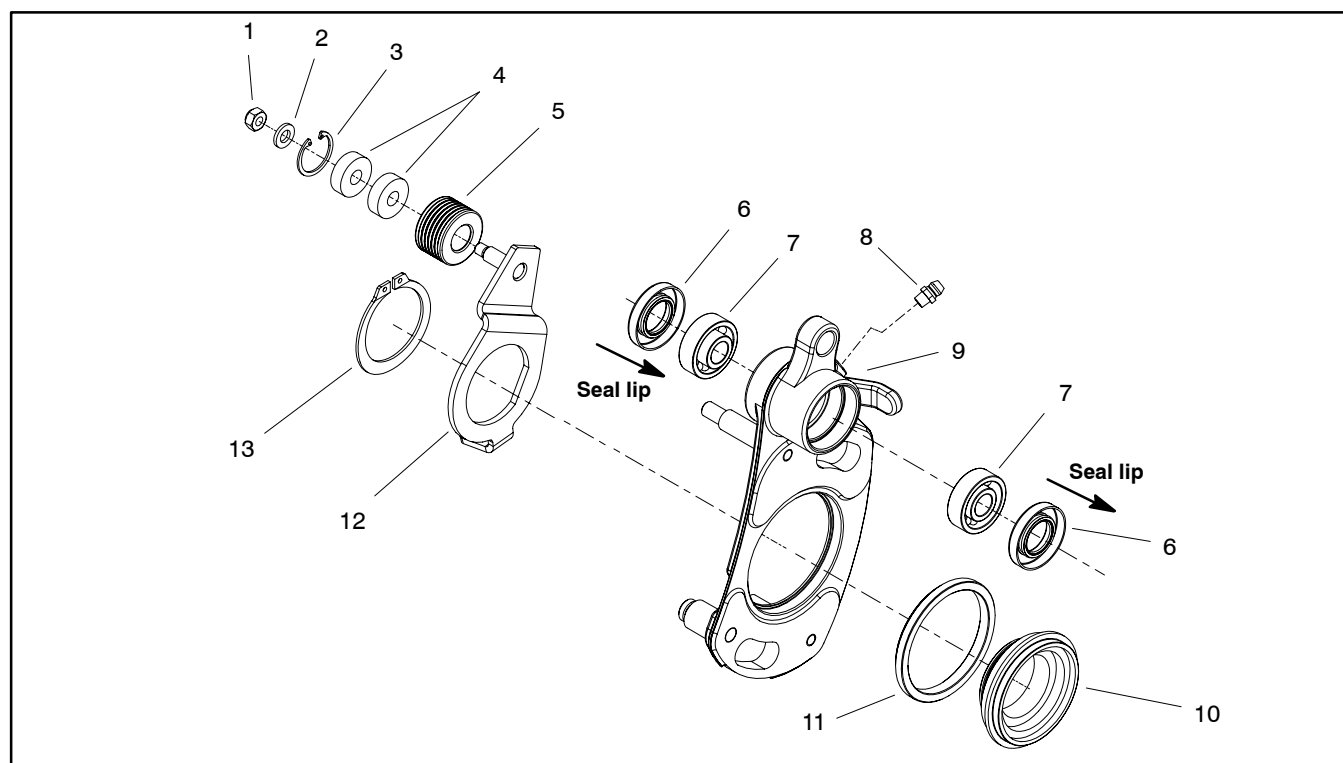

Figure 15
2. Using Figures 15 and 16 as guides, remove idler bracket, idler pulley and/or idler bearings for service as needed.
1. Reassemble components using Figures 15 and 16 as guides.